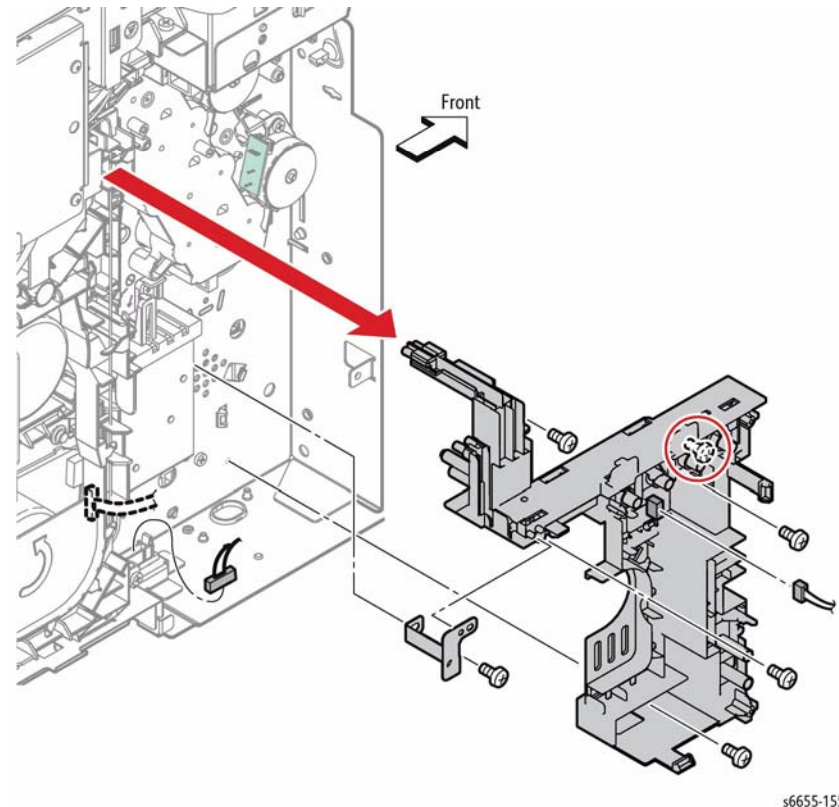

Figure 2 Remove the Outer Developer Charge Housing Assembly
7. Refer to Figure 2 to locate and remove the screw (silver, 6 mm) that attaches the HV Ground Plate to the printer and remove the plate.
9. Refer to Figure 2 to locate and remove the four screws (silver, 6 mm) that attach the Outer Developer Charge Housing Assembly and remove it.